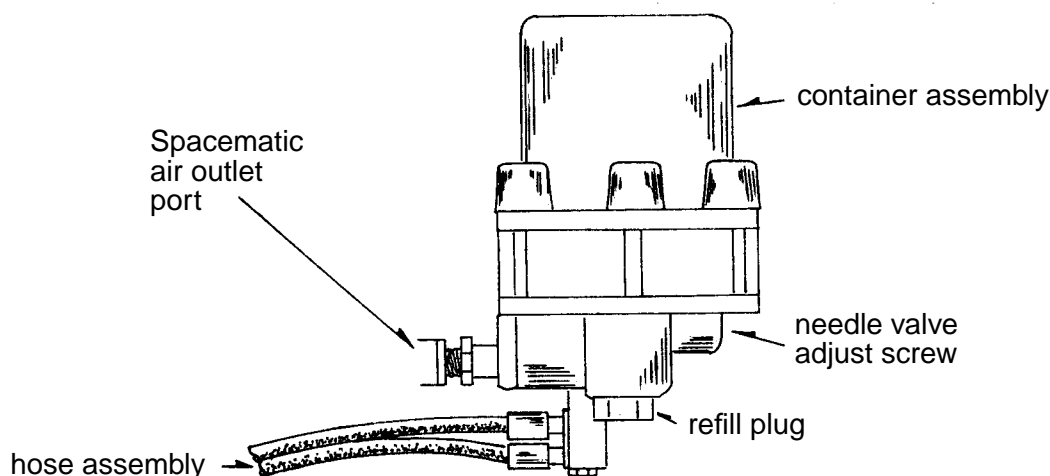
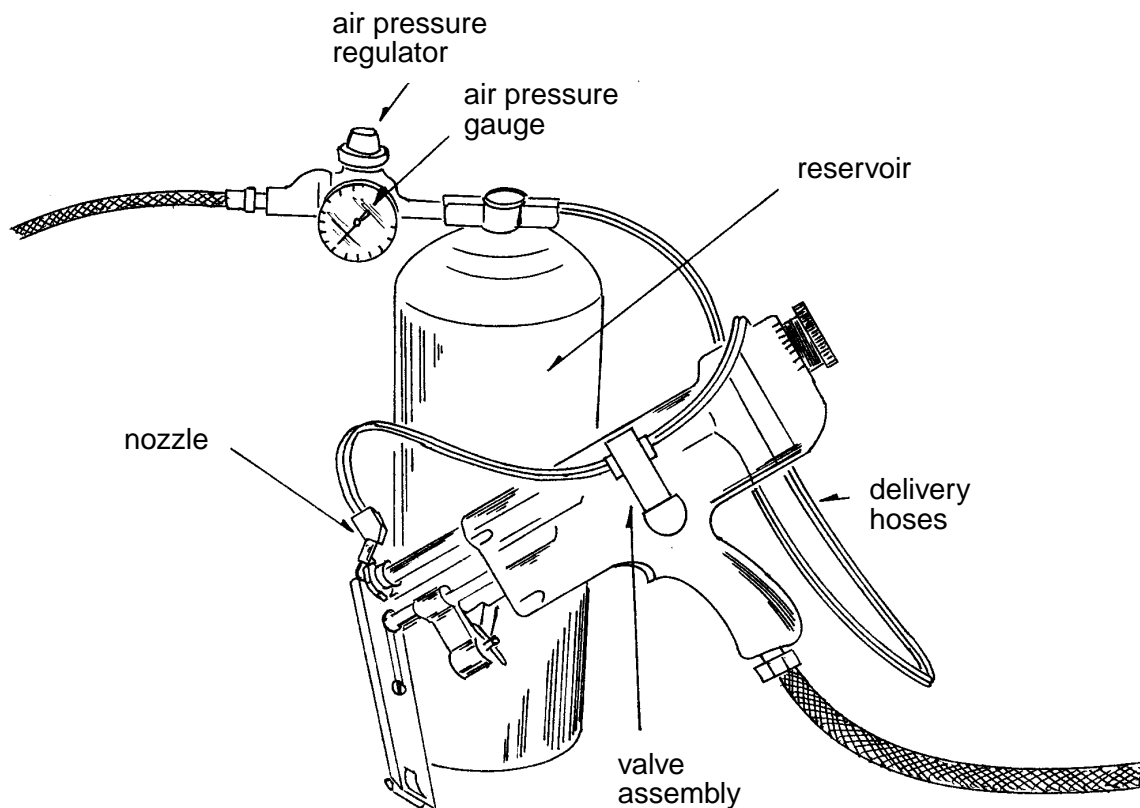

Figure 9 - Mistmatic Coolant System
Figure 10 - Mistmatic Reservoir Coolant System
5.4.4.1 The mistmatic coolant system consists of either a container assembly fitted to the air outlet port on the side of the drillmotor housing (see Figure 9) or a valve assembly fitted to the air outlet port and connected to a separate reservoir (see Figure 10) and delivery hoses leading to a nozzle fitted to the foot attachment. In operation the system delivers a fine spray of liquid freon coolant (ref. paragraph 4.1.1) to the cutting tool during the drilling operation.